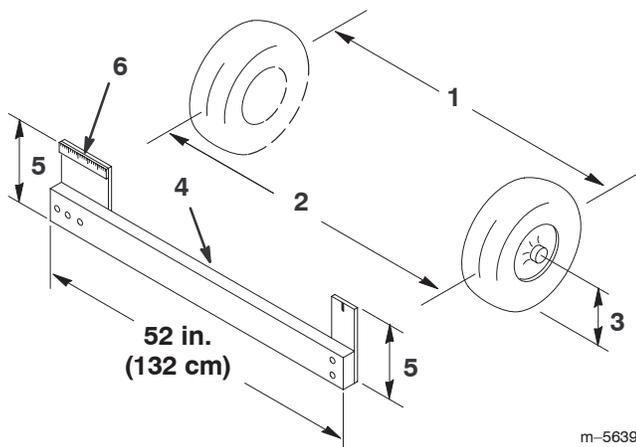

Figure 36
2. Measure the distance between both of the front tires at the axle height at both the front and rear of the front tires (Fig. 36). A fixture or alignment gauge is needed for the rear measurement of the front tires at axle height. Use the same fixture or alignment gauge to accurately measure the front of the front tires at axle height (Fig. 36).